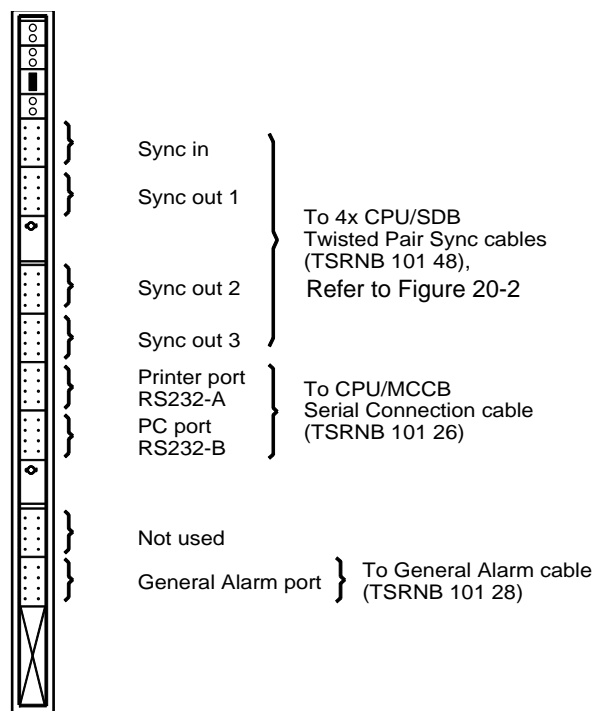

Fig. 20-1 Connections to the CPU1
2. Connect the CPU/MCCB serial connection cable (TSRNB 101 26) to the Printer and PC port on the CPU (see Figure 20-1).